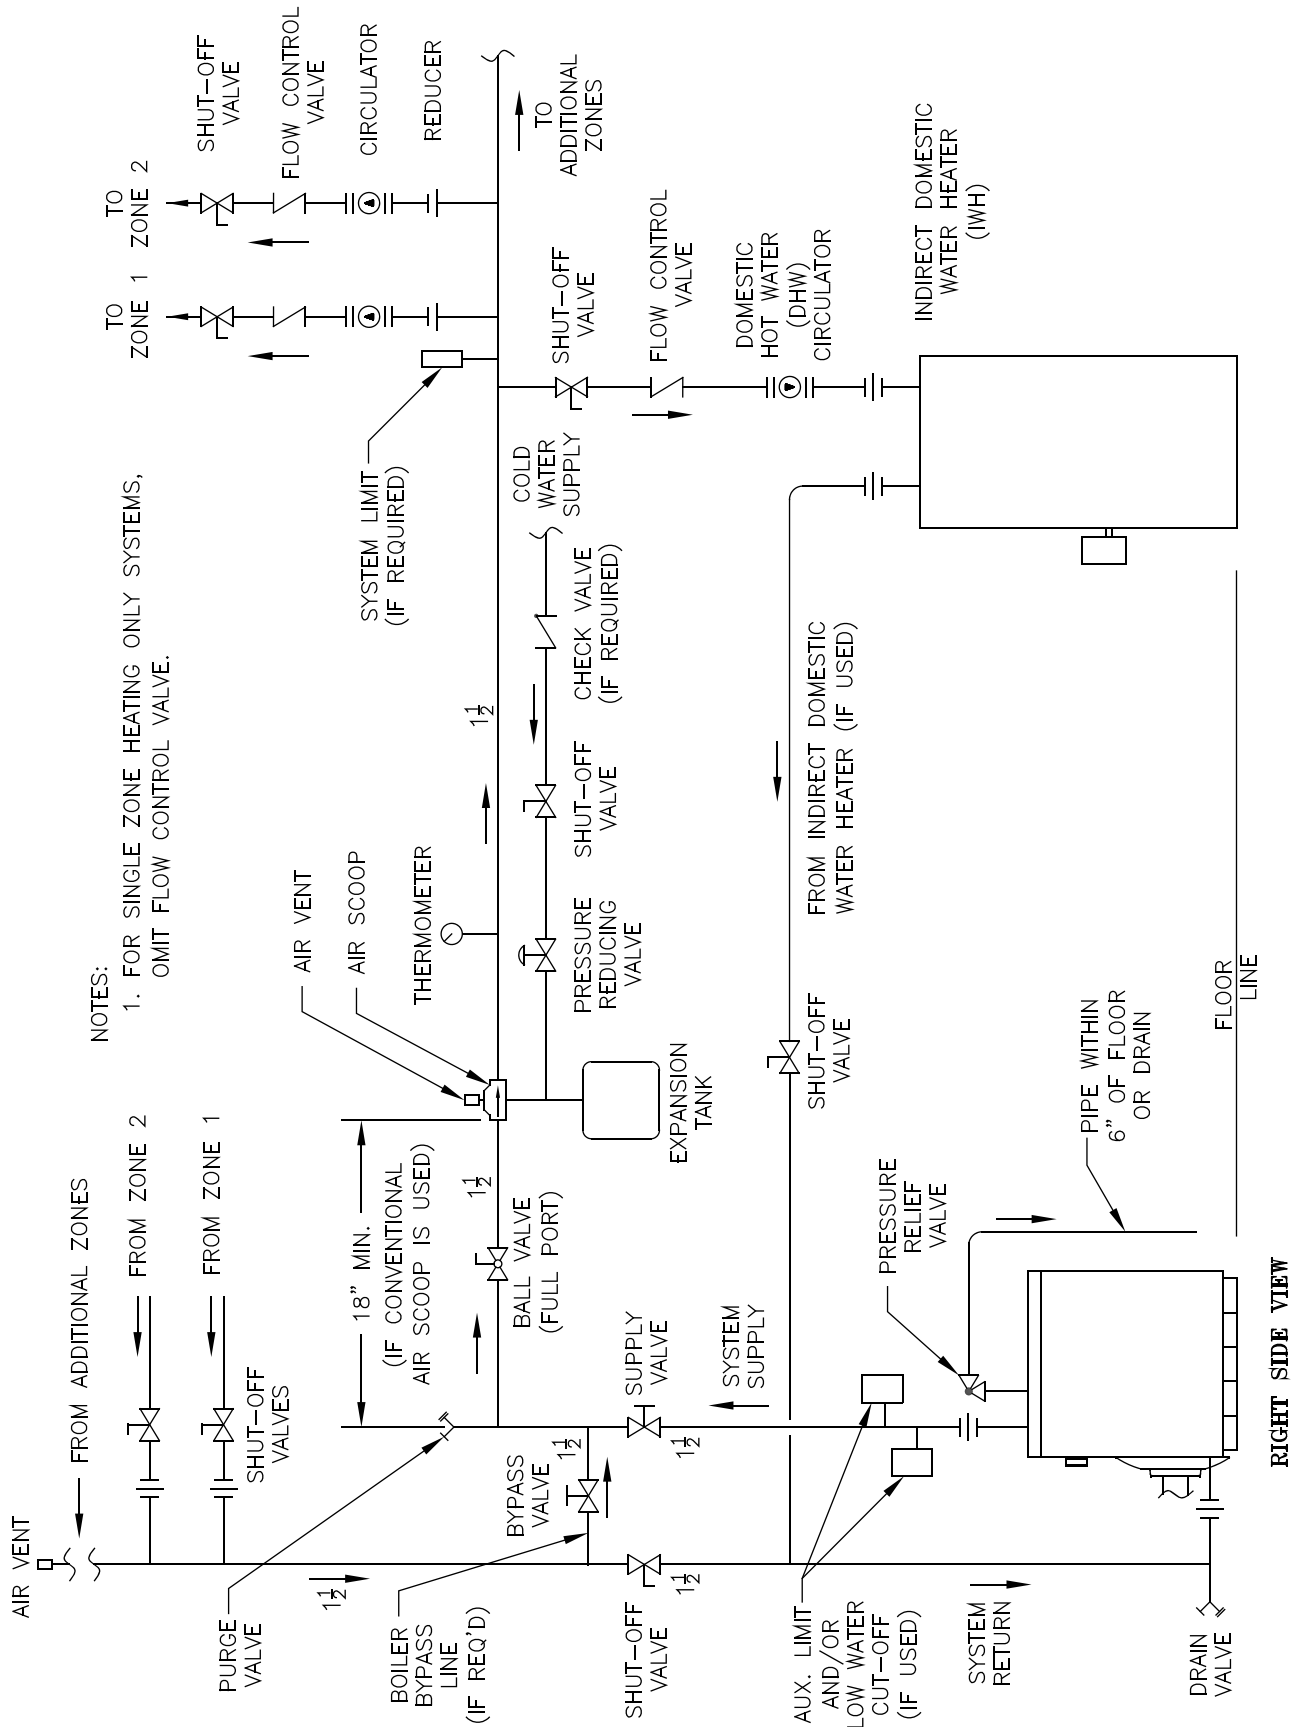
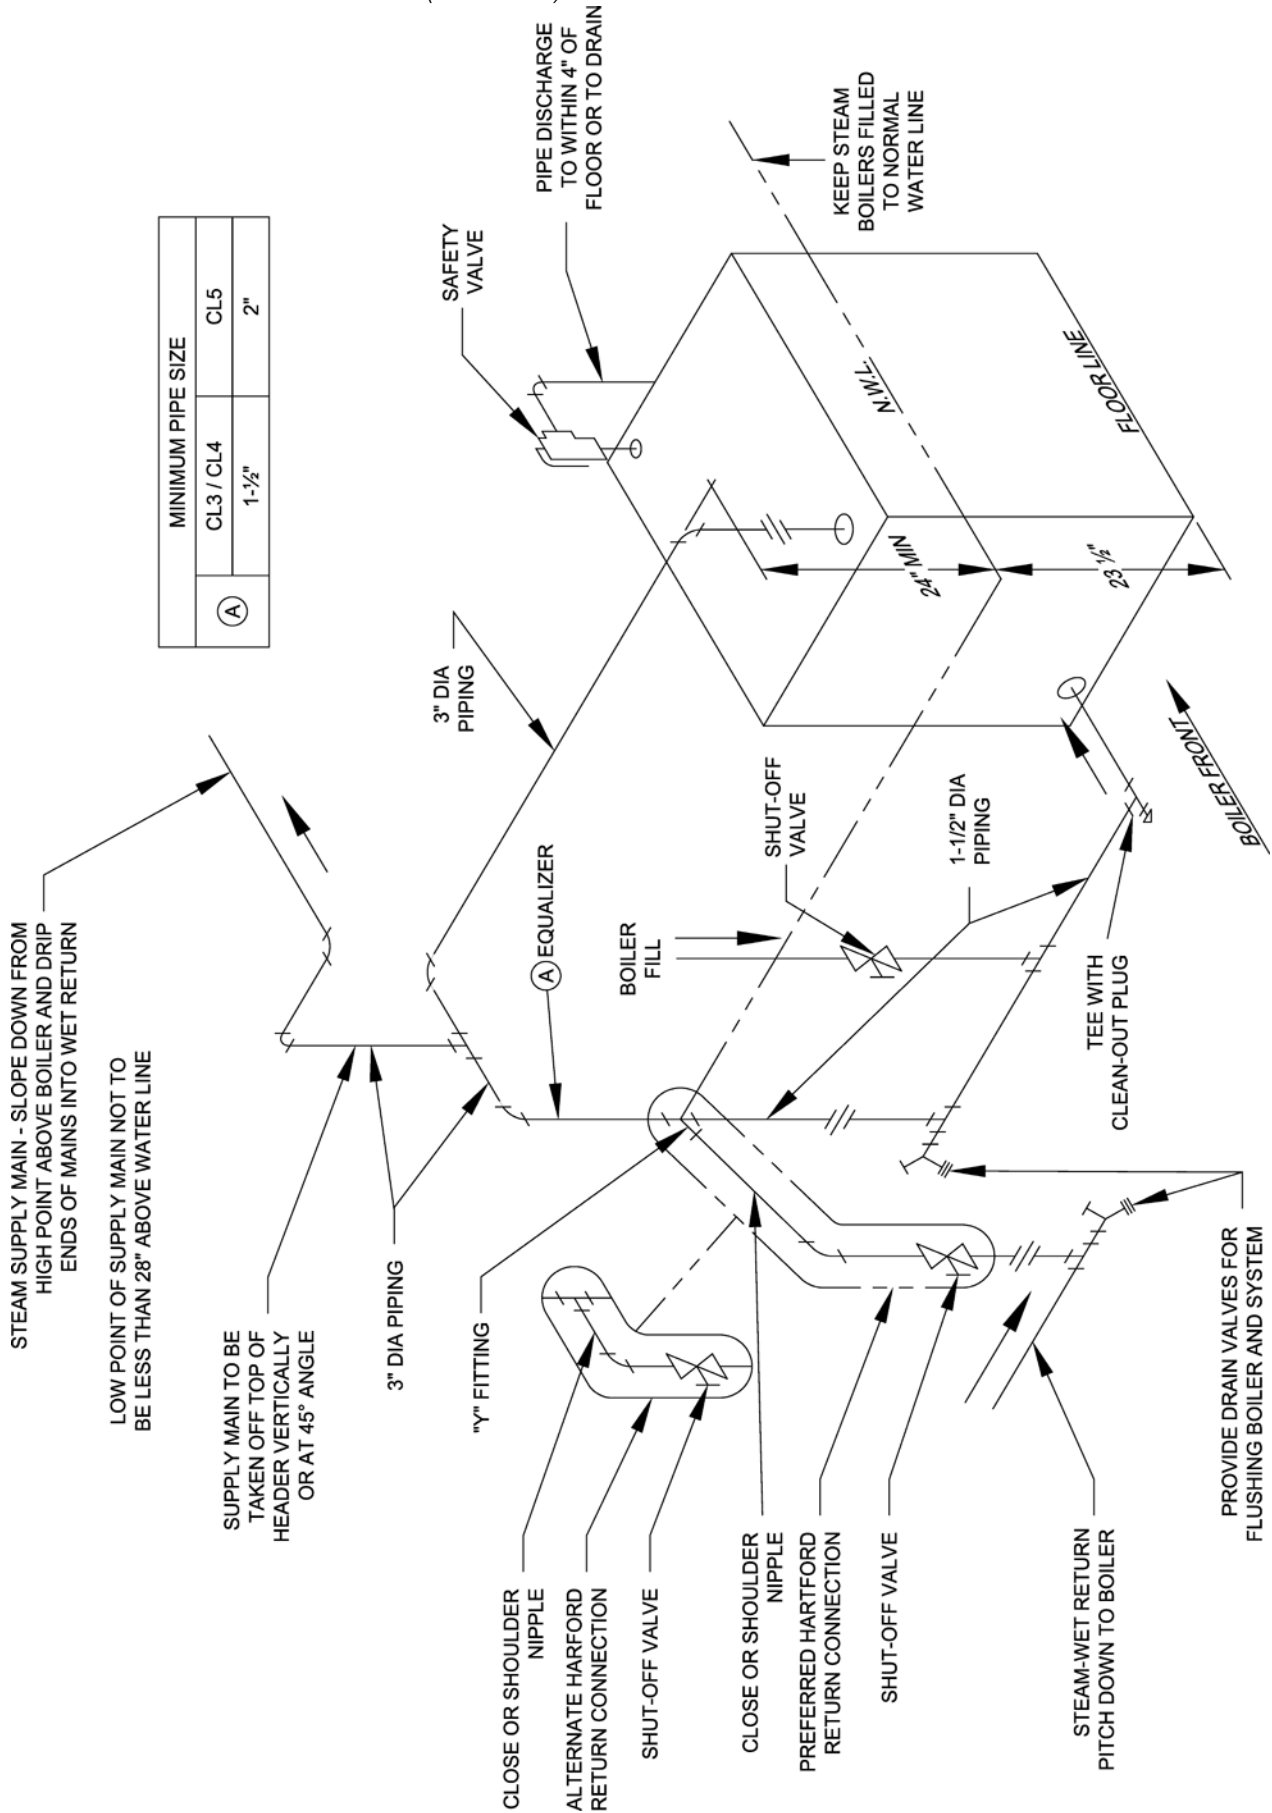

Figure 12A: Recommended Water Piping for Circulator Zoned Heating System - Supply Side Circulator
Figure 13: Recommended Boiler Piping for Gravity Return Steam Boiler
2. Thread relief valve onto factory installed ¾" NPT x 7¼" nipple located in left rear corner on top of boiler as shown in Figures 1A and 1B. Valve spindle must be in vertical position. Tighten with wrench. Pipe discharge as shown in Figures 12A and 12B. Installation of the relief valve must be consistent with ANSI/ASME Boiler and Pressure Vessel Code, Section IV.
7¼" nipple located in left rear corner on top of boiler as shown in Figure 1C. Tighten with wrench. Pipe discharge as shown in Figure 13. Installation of the relief valve must be consistent with ANSI/ASME Boiler and Pressure Vessel Code, Section IV.
2. Install ¾" drain valve in wet return piping as shown in Figure 13.
- a. For Forced Circulation HOT WATER HEATING. See Figures 12A and 12B. Consult I=B=R, "Residential Hydronic Heating Installation and Design Guide".
Install a pipe tee in the boiler return piping along with a second tee in the supply piping as shown in Figures 12A and 12B. The bypass should be the same size as the supply and return lines. Locate valves in the bypass and supply outlet as illustrated in Figures 12A and 12B for regulation of water flow to maintain higher boiler water temperature.
- a. For Recommended STEAM BOILER PIPING refer to Figure 13. Also, consult I=B=R, "Residential Hydronic Heating Installation and Design Guide".
1. Connect Indirect Water Heater Piping as shown in Figures 12A and 12B for water boilers and Figures 13 and 16 for steam boilers. Refer
- a. **CL Series Water Boiler** - Figures 12A and 12B show indirect water heater piping on typical hot water heating system. Boiler piping is the same as for any two-zone system. Figures 12A and 12B show circulator zoning, which is usually preferred for indirect water heaters. Size the circulator and indirect water heater piping to obtain the boiler water flow through the indirect water heater called for by the indirect water heater manufacturer. Refer to the indirect water heater instruction manual for additional details.